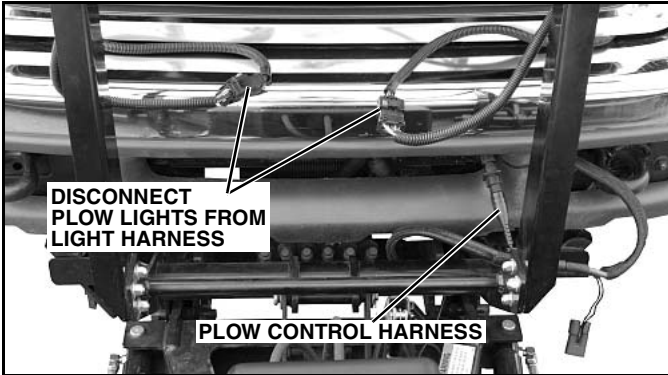

Figure 1-19
2. Disconnect the plow lights from the truck light harness (See Figure 1-19). Disconnect the plow control harness and replace the protective cap. (See Figure 1-21 or 1-22).